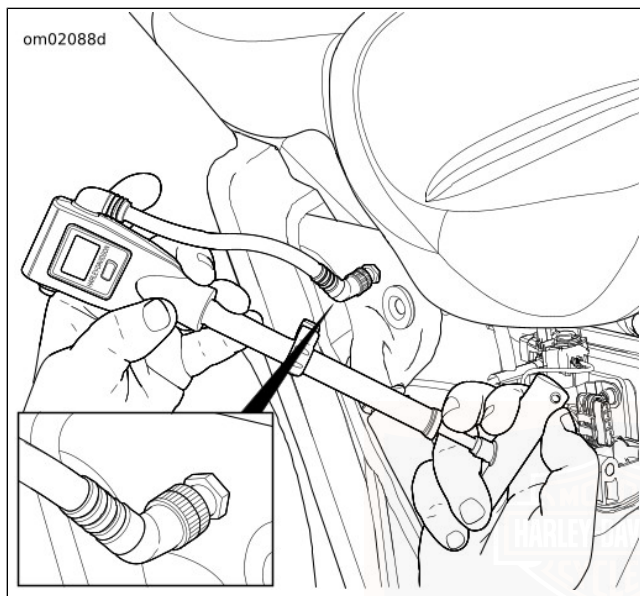

Figure 29. Adjusting Shock Air Pressure
- Inflate pressure:** See Figure 29. Pull out the handle. Rotate the handle to the T-position. Pump until the display indicates the recommended pressure.